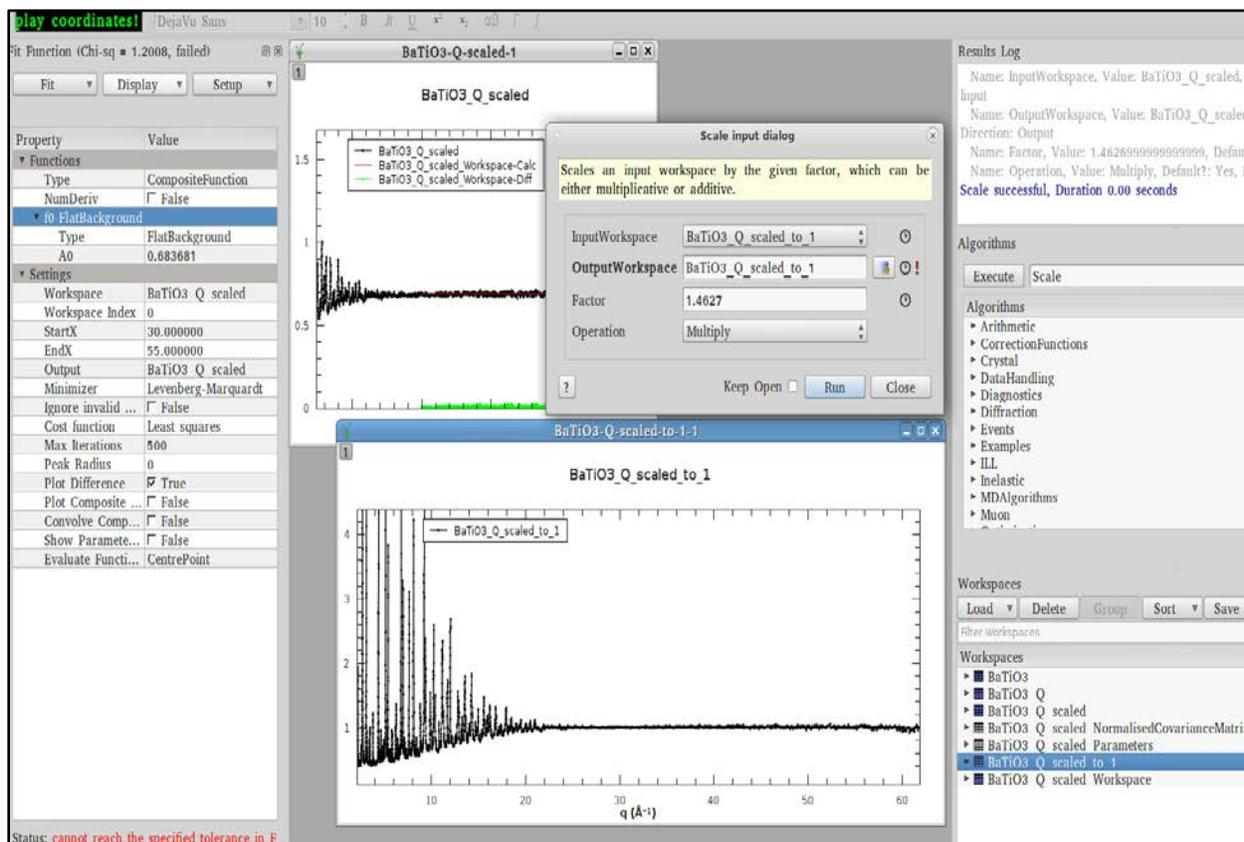

Figure 9. Scaling the data according to the background fit.
6. On the Fit Function sidebar, under f0-FlatBackground, record the fitted value A0 (Figure 9).
7. Execute the “Scale” algorithm (Figure 9) to divide the data by A0 (by multiplying by the inverse). The InputWorkspace should be the converted workspace from step 2 above. Give the OutputWorkspace a different name if you do not wish to overwrite. The Factor should be a value equal to 1/A0 and the Operation should be **Multiply**. This should result in a spectrum that goes to a value of 1 in the range of 30-50 Å⁻¹.